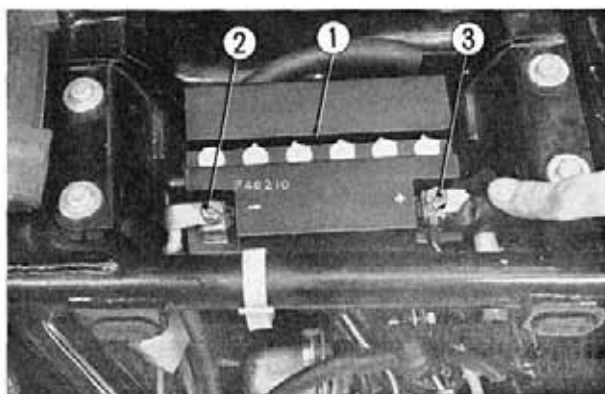

Fig. 10-1 ① Battery ② \ominus terminal ③ \oplus terminal
2. Disconnect the ground \ominus negative cable connection first and the positive \oplus last. (Fig. 10-1)